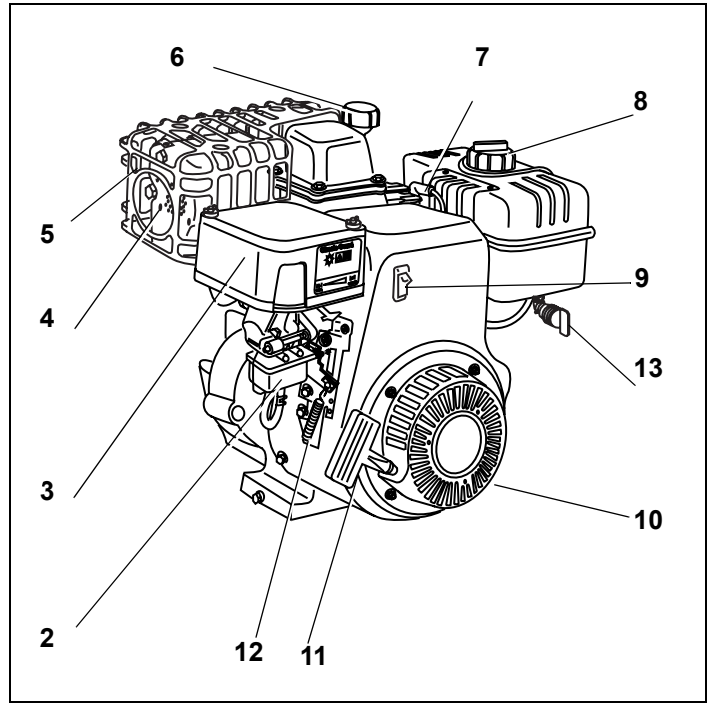

Figure 20. OH318EA
OH318EA	See Figure 20.
1. To avoid carbon monoxide poisoning, be sure engine is outdoors in a well-ventilated area. See Figure 20.